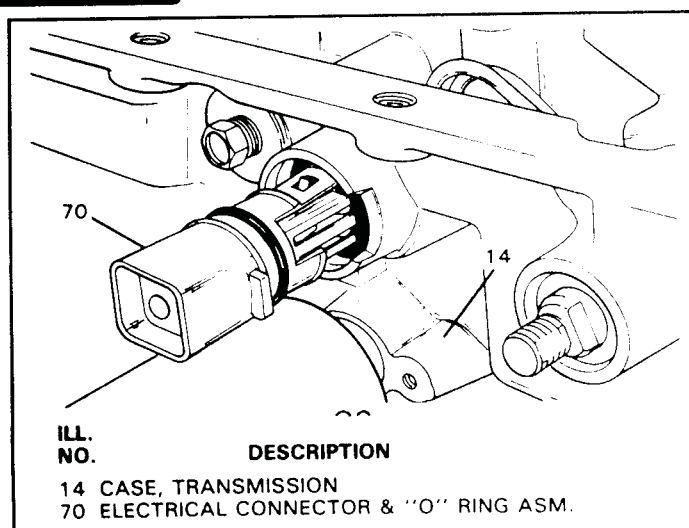

Figure 41
33. Remove the electrical connector from the case and discard the "O" ring (See Figure 41).